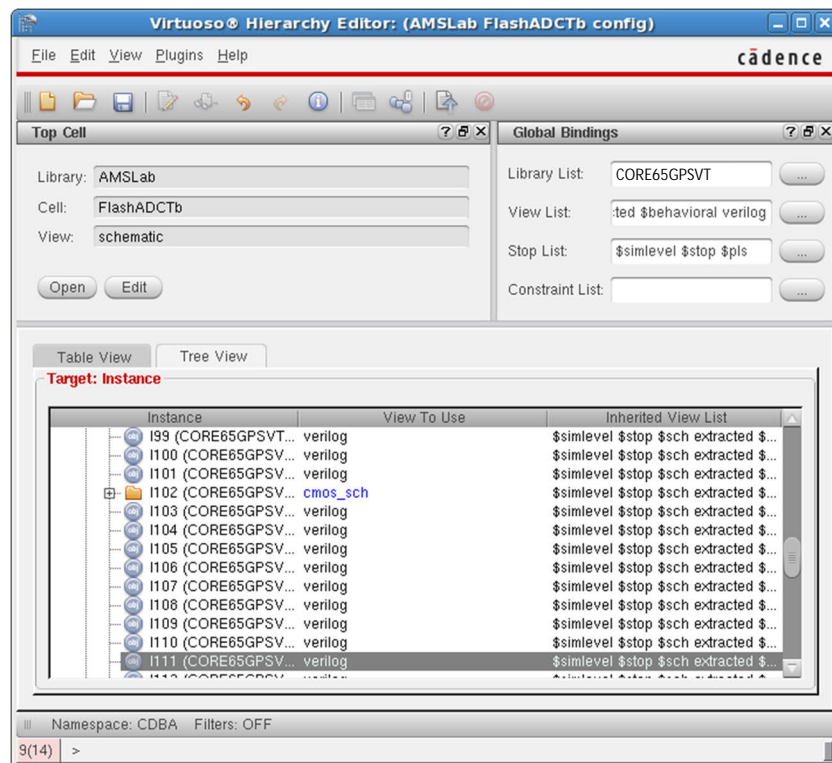

Figure 7. The flash ADC test bench config view (Tree View).
- f. Click on the **Tree View** to have a look at the tree view of the design. Here it is also possible to indicate what view should be used for different instances of the same cell: in Figure 7, the view to use for instance **I102** of **HS65_GS_BFX2** has been changed to **cmos_sch**, and all other kept to **verilog**.